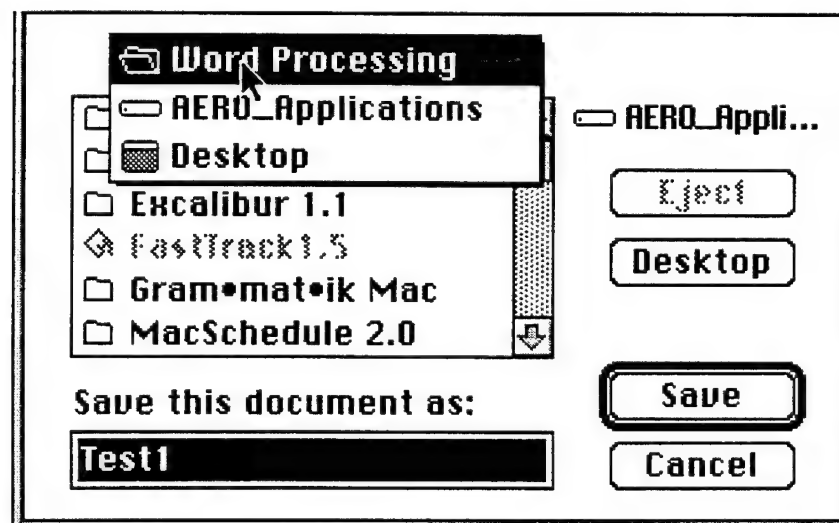

Figure 2.11: Switching Directories from within an application
9. The same dialog box appears as the first time you saved the document. Now you will create a new user folder. To do this, press and hold the mouse button down over the text that says "Word Processing". A pop-up menu will appear as shown in Figure 2.11. Drag the pointer down the list until the "desktop" is highlighted. Drag the pointer down the list until the "desktop" is inverted.